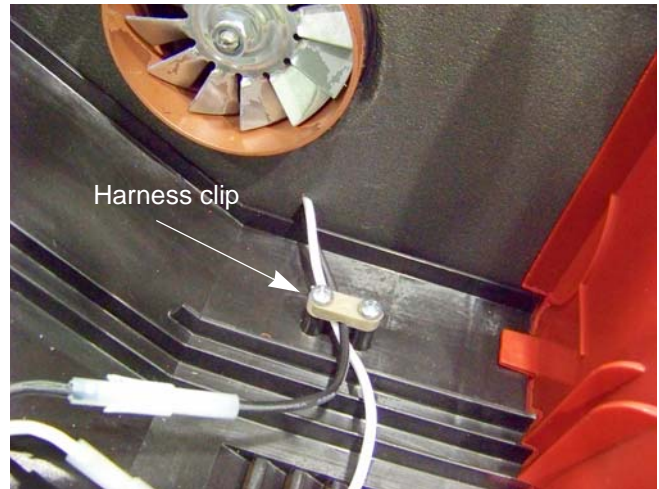

Figure 2.13
3. Remove the motor side harness clip using a #2 philips screw driver. See Figure 2.13.